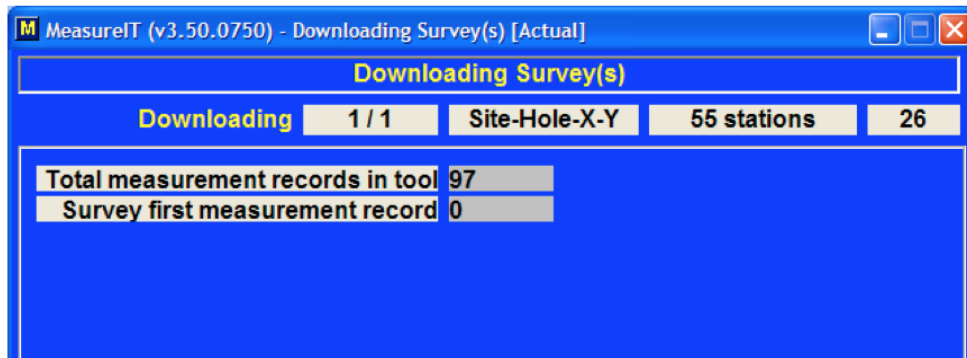

Figure 12 Download-in-progress screen
- a. It takes about a half-second per shot for the data to download, e.g. an 8-hour survey at 6 sec/shot should take around 40 minutes to download. The downloading survey window will be displayed throughout the download process (Figure 12).